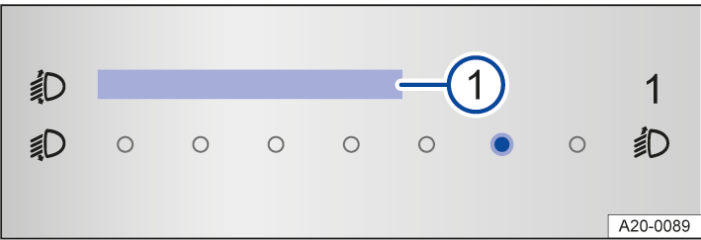

Fig. 1 In the Infotainment system: touch slider for headlight range control.
Depending on the vehicle equipment, the headlight range can be adjusted in the Infotainment system → Fig. 1.
2. Tap the **Headlights** function button to open the menu option **Headlight range control** → Fig. 1 .